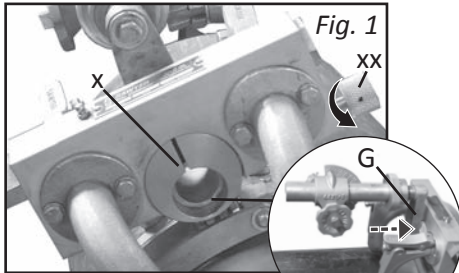

Fig. 1
A. Tighten knob (xx, Fig. 1) on Crawler